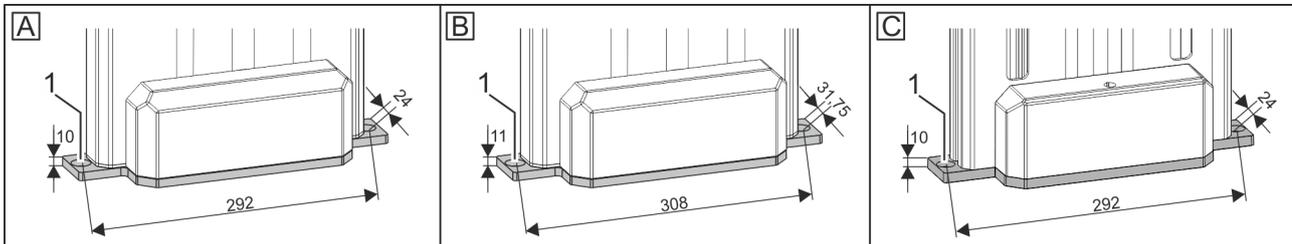

Fig. 32: Connection points
2. ➔ Insert 2 screws into the drilled holes (Fig. 32/1) on the base plate of the lifting column and the substrate.